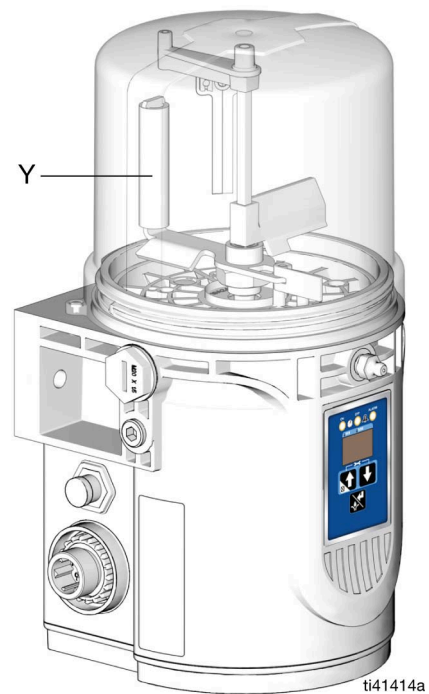

FIG. 21
1. Connect the fill hose to the Zerk Inlet Fill Fitting (E) (FIG. 21).